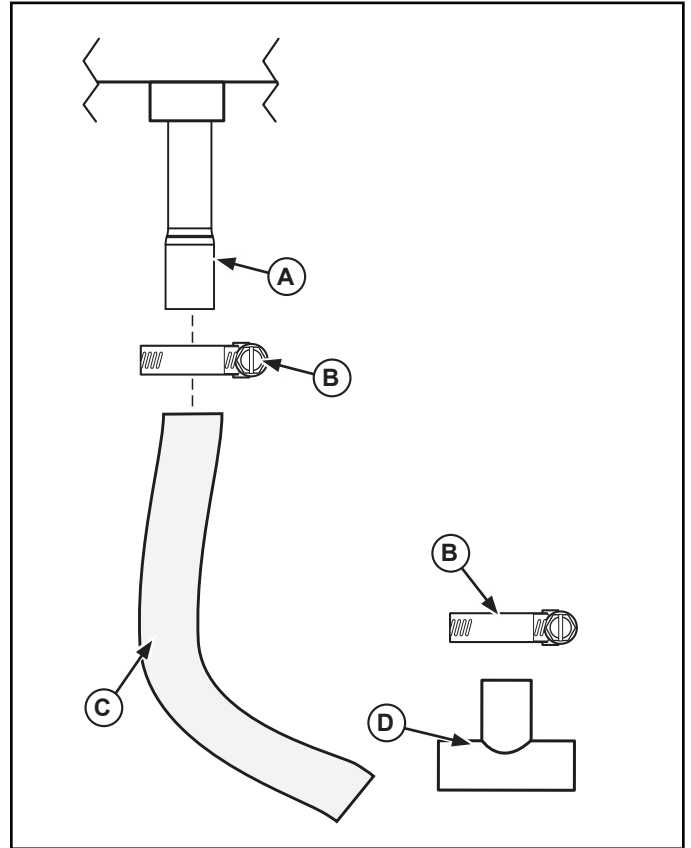

**Figure 6. Drain Tube, Clamp and "T" Fitting.**
- Cut and install the drain tubing (C), "T" fittings (D) and clamps (B) as needed and route to drain. See Figure 6.